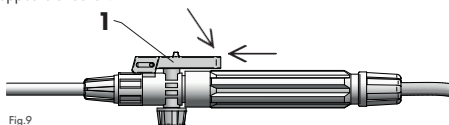

Fig.9
The lock on the handle valve lever (fig. 9/pos. 1) allows for continuous spraying. In order to lock the handle, press the lever (fig. 9/pos. 1) and slide it forward as shown in the figure below. To unlock, slide the lever (fig. 9/pos. 1) in the opposite direction.